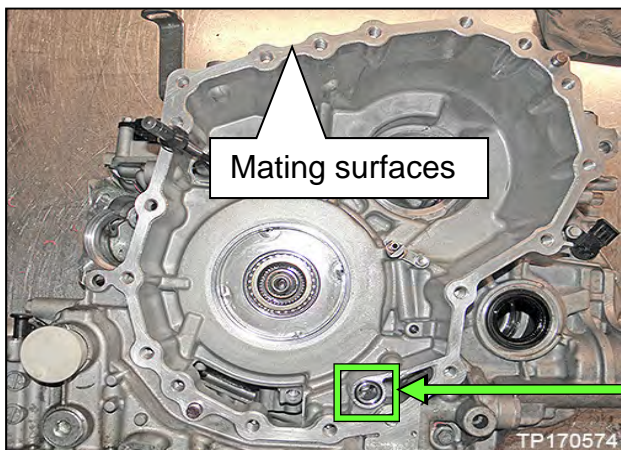

Figure 83
60. Thoroughly clean the mating surfaces of the CVT case (Figure 83) that the sub-assembly was just separated from (a plastic scraper can be used).